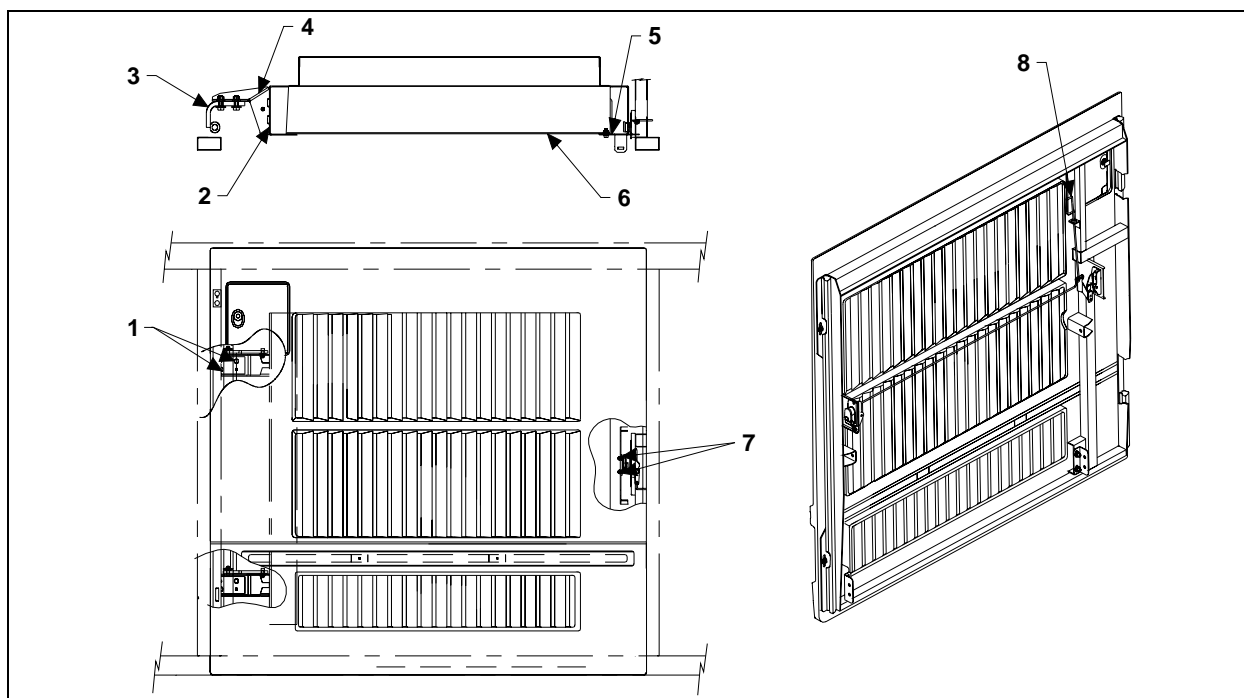
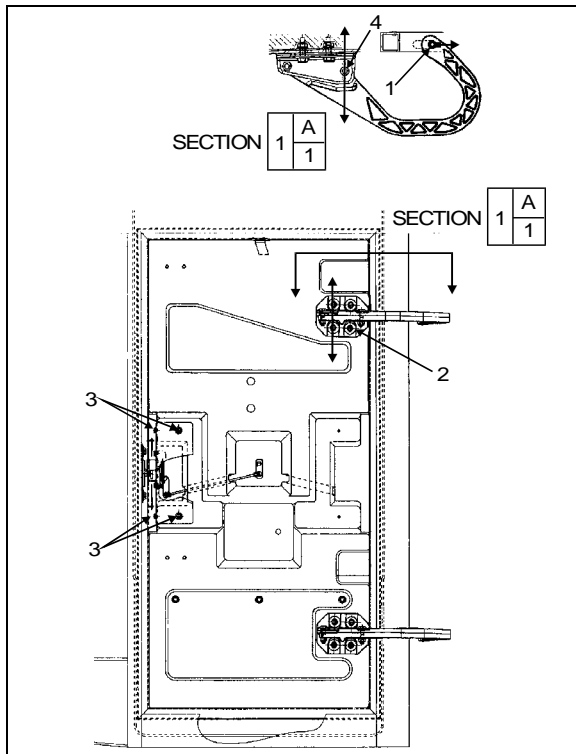

FIGURE 70: CONDENSER DOOR
FIGURE 77: MAIN POWER COMP. DOOR
2. Loosen the nuts (1, Fig. 70) holding the hinge (3, Fig. 70) to hinge attachment (4, Fig. 77). Loosening nuts (1, Fig. 70) allows the condenser assembly to be shifted "LEFT or RIGHT" and "UP or DOWN".
5. Loosen bracket nuts holding the panel to condenser. Panel (6, Fig. 70) may be shifted "IN or OUT", "LEFT or RIGHT" and "UP or DOWN".
6. Adjust condenser panel at brackets (2, Fig. 70) and (5, Fig. 70).
1. Loosen nut (1, Fig. 77).
3. Tighten nut (1, Fig. 77).
4. Loosen nut (4, Fig. 77).
7. Loosen screws (2, Fig. 77). Screws allow the door to be shifted "UP or DOWN".